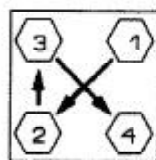

FIG. 1
4. Torque the rod nuts in the sequence shown in Fig.1 per each of the four steps shown in the table. (Ft/Lbs.)
7. Tighten the tie rod nuts in the sequence shown in Fig.1 with a 2/12ths maximum turn per each sequence.